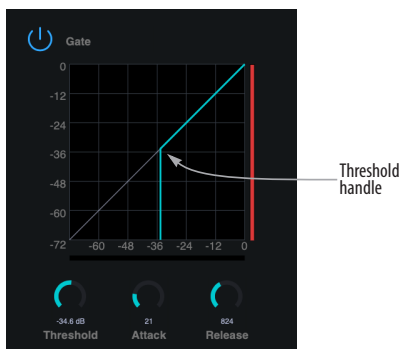

Figure 6-1: The Gate.
Mic/line/inst channels 1-2 (item 1 on page 37) provide a *Gate* (Figure 6-1).